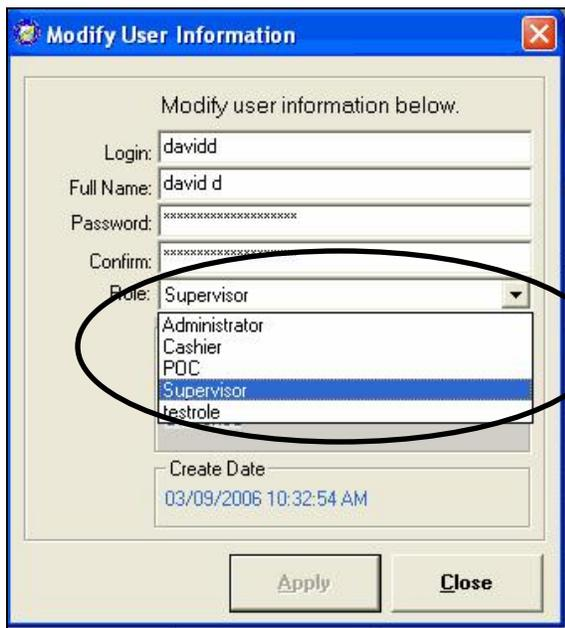

Figure 3.27
3. Change the user's role by clicking the down arrow to the right of the 'Role' field, then clicking on the new role as displayed in Figure 3.27.